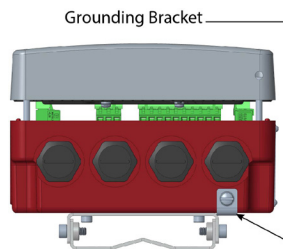

Figure 18: Lift cover from base
4. Insert a wire for earth ground under the grounding bracket (see *Figure 18*) and screw it down tight.